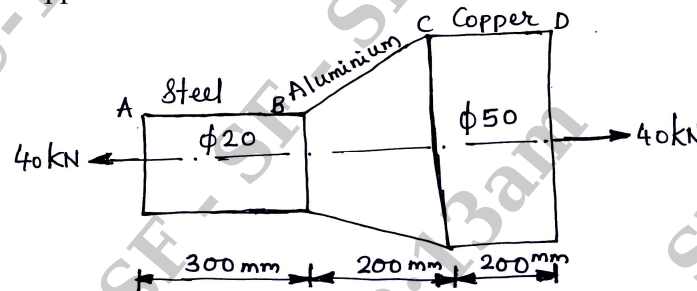

Fig. Q1(c)
- c. A stepped bar is subjected to an external loading as shown in Fig. Q1(c). Calculate the change in the length of bar. Take  $E = 200\text{ GPa}$  for steel,  $E = 70\text{ GPa}$  for Aluminium and  $E = 100\text{ GPa}$  for copper. (10 Marks)